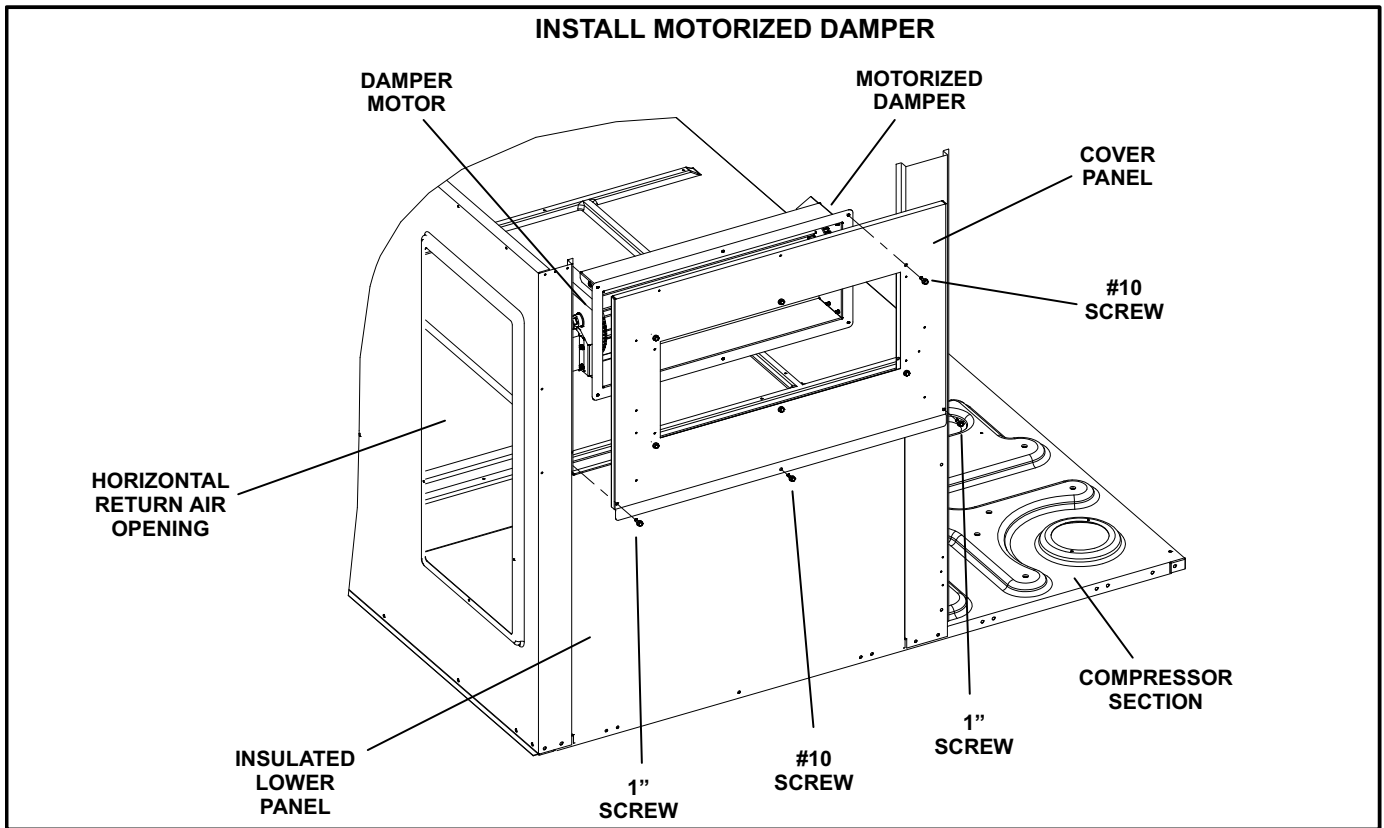

FIGURE 4
- 2- Locate insulated lower panel provided in kit. Align holes on the lower panel with holes in the unit base. Secure panel with #10 screws **EXCEPT** on 150/152 units. On 150/152 units, use retained screws. See figure 4.
- 3- Secure the motorized damper to the cover panel using #10 screws. Orient damper motor as shown in figure 4.
- 6- Open the horizontal return air cover. See figure 4.
- 4- Cut insulation from opening in insulated lower panel provided. See figure 4.